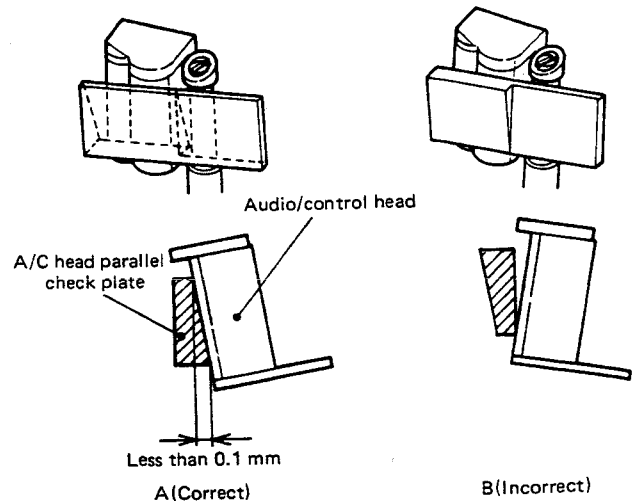

Fig. 2-55
2. Put the A/C head parallel check palte against the audio/control head as shown in Fig. 2-55 and confirm that the inclination is less than 0.1 mm as shown by A.